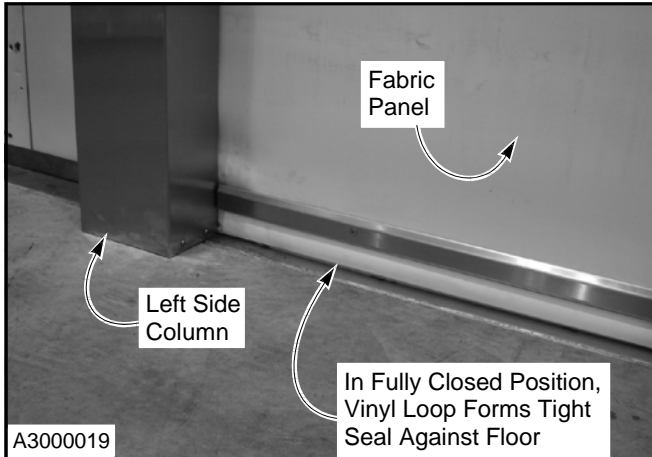

Figure 17
1. With the door in the fully closed position, check that the vinyl loop along the bottom bar gently seals against the floor. (See Figure 17.)